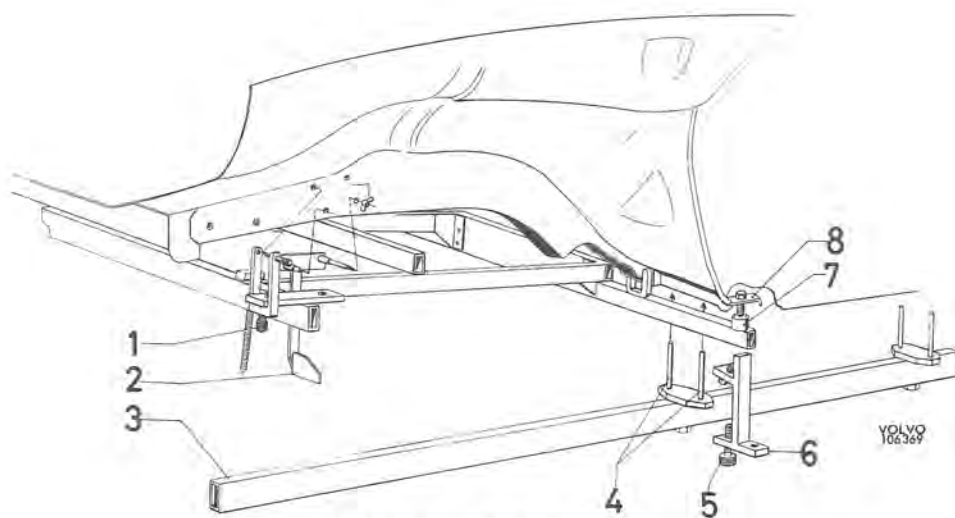

Fig. 8-6. Tool for front side-members
1. Set up the fixture SVO 2777. The rear guide pins (7, Fig. 8-6) fit in the holes in the floor plating and are held in position by clamps (8). At the front the